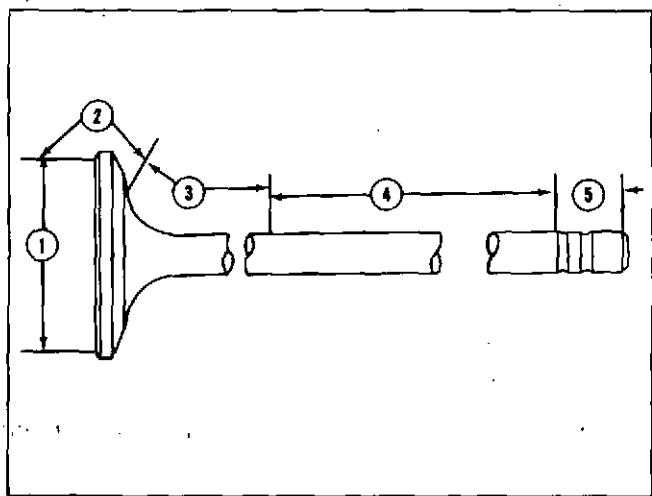

Fig. 2-14 (N10289). Areas Of Magnetic Indication.
- a. For area (1), Fig. 2-14 no indication longer than 1/2 inch [12.70 mm]. Also, no more than 5 indications, or, indications spaced closer than 1/8 inch [3.18 mm].